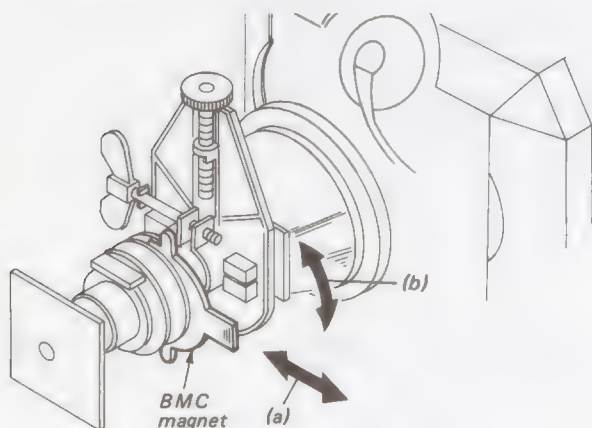

Fig. 5-6.
- 3) Move the BMC magnet as shown in Fig. 5-6(a) to correct insufficient H. static convergence.
- 3) Move the BMC magnet as shown in Fig. 5-6(b) to correct insufficient static convergence.